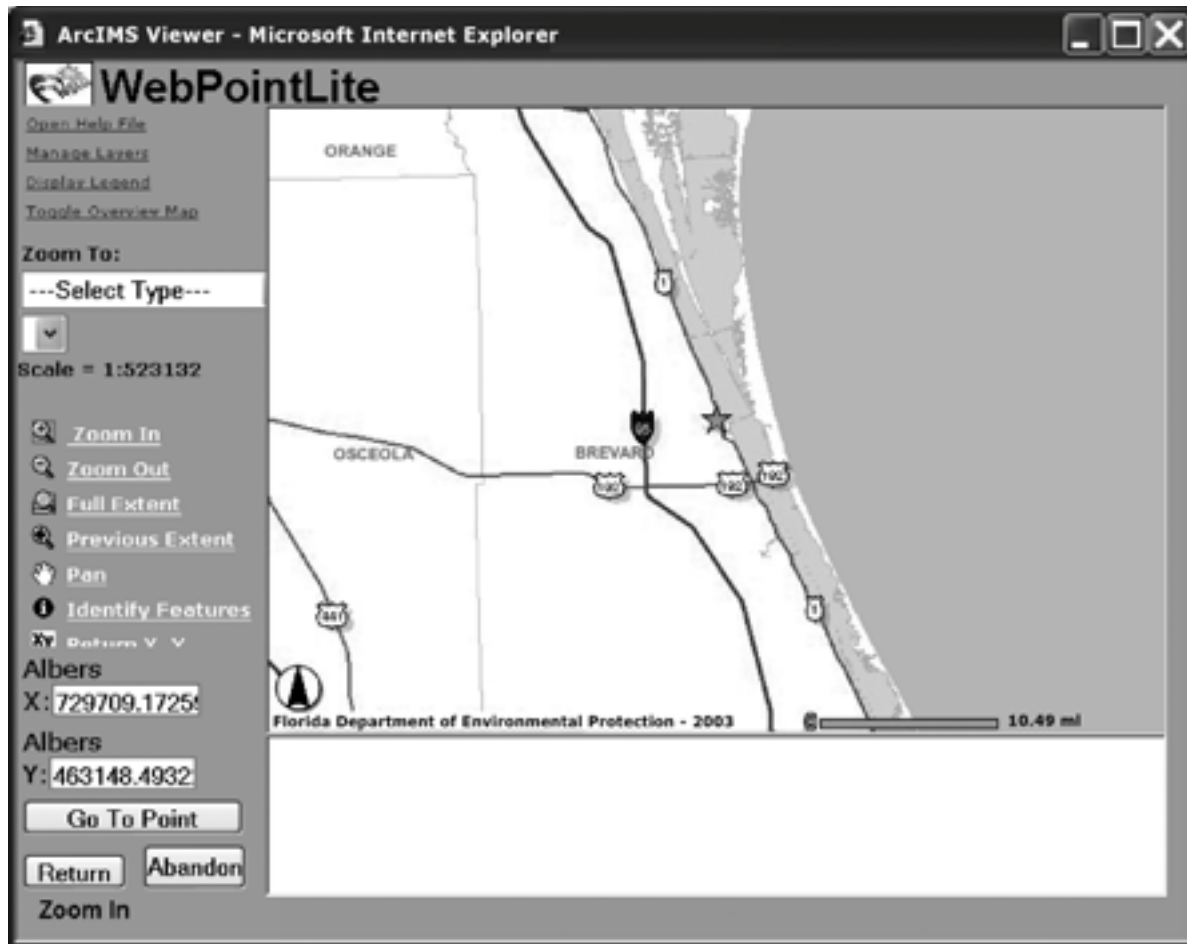

Figure 2. WebPoint Lite interface displaying the location selected in Figure 1
1. When the WPL window is launched, if the latitude/longitude fields are completely populated on the Oracle Form then the WPL window will display the location of the point identified by latitude/longitude values (See Figure 1 and Figure 2 below).